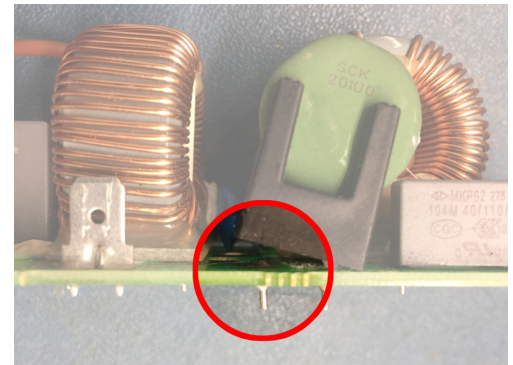

Figure 8.2.1 - Broken R41 component
- NTC inrush filter R41 is broken or open (Figure 8.2.1)